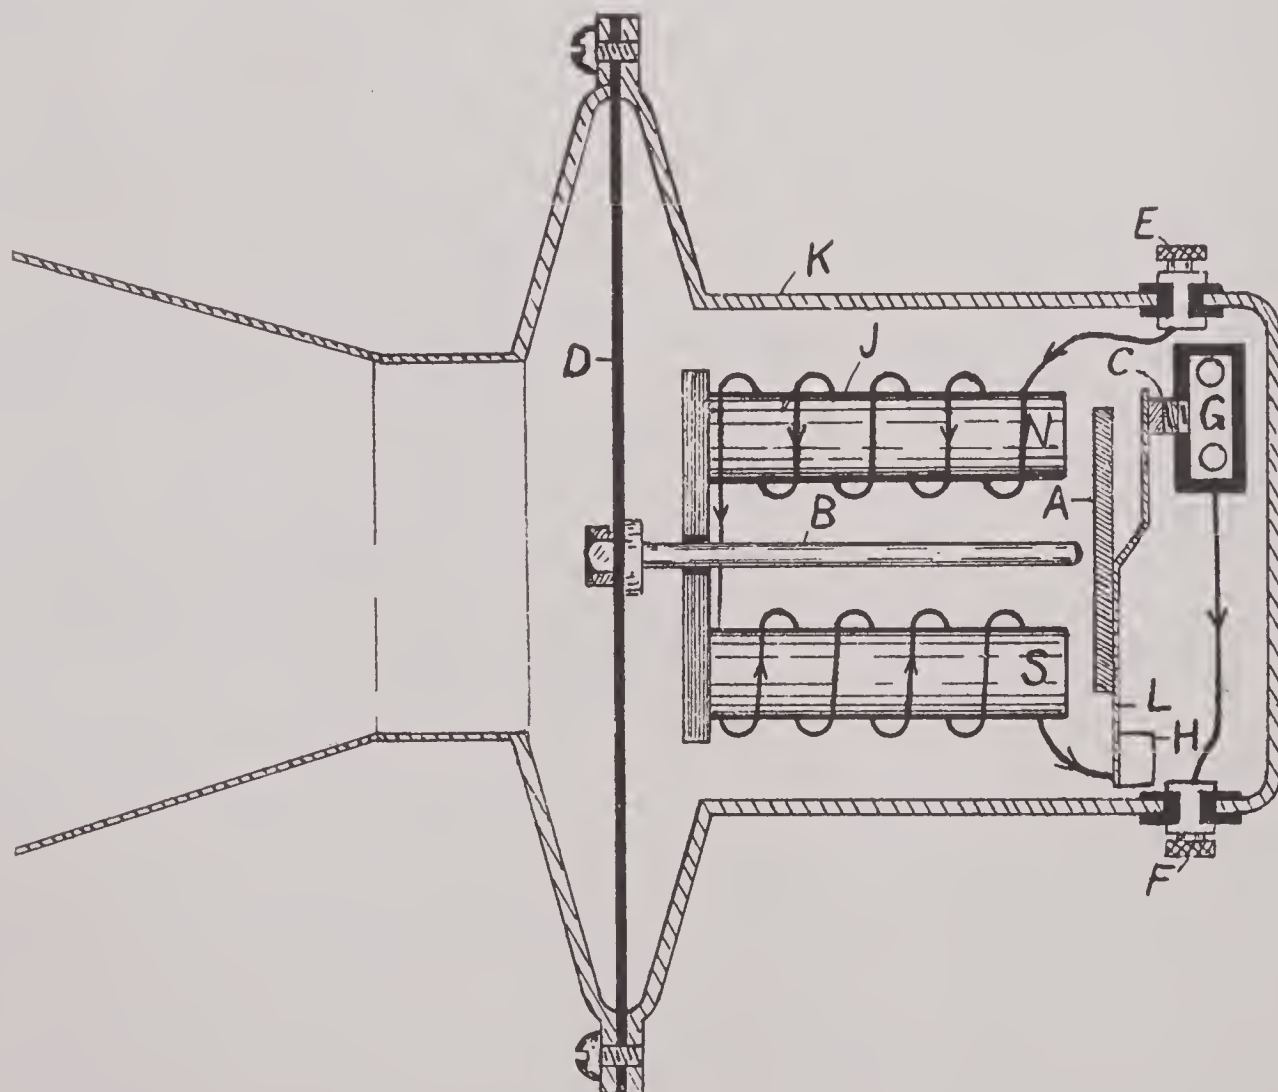

FIG. 307
There are several types of electric horns used on motor cars. The simplest is the vibrating type. The construction of one type of vibrating horn is shown in Fig. 307. The mechanism consists of an electromagnet (J), near the poles of which is mounted an armature (A) upon a spring (L) and bracket (H). The armature carries a contact (C), which normally closes the circuit through the magnet coils by resting against another contact mounted on bracket (G). Mounted between the flanges of the housing (K) and the megaphone attachment is a diaphragm (D). In the center of this diaphragm is rigidly connected a post (B). One end of this post extends to a point near armature (A).